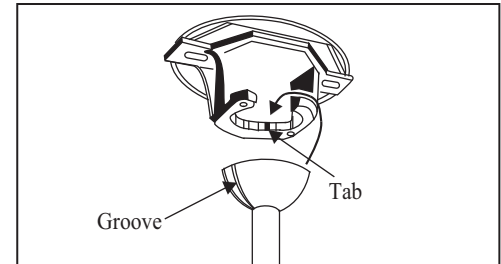

Figure 11
4. Carefully lift the fan assembly up to the hanger bracket and seat the hanger ball in the bracket socket. Make sure the tab on the hanger bracket socket is properly seated in the groove in the hanger ball. (Figure 11) This will help to balance the ceiling fan.
THE TAB IN THE RING MUST REST IN THE GROOVE OF THE HANGER BALL AS FIGURE 11. FAILURE TO PROPERLY SEAT THE TAB IN THE GROOVE COULD CAUSE DAMAGE TO WIRING.